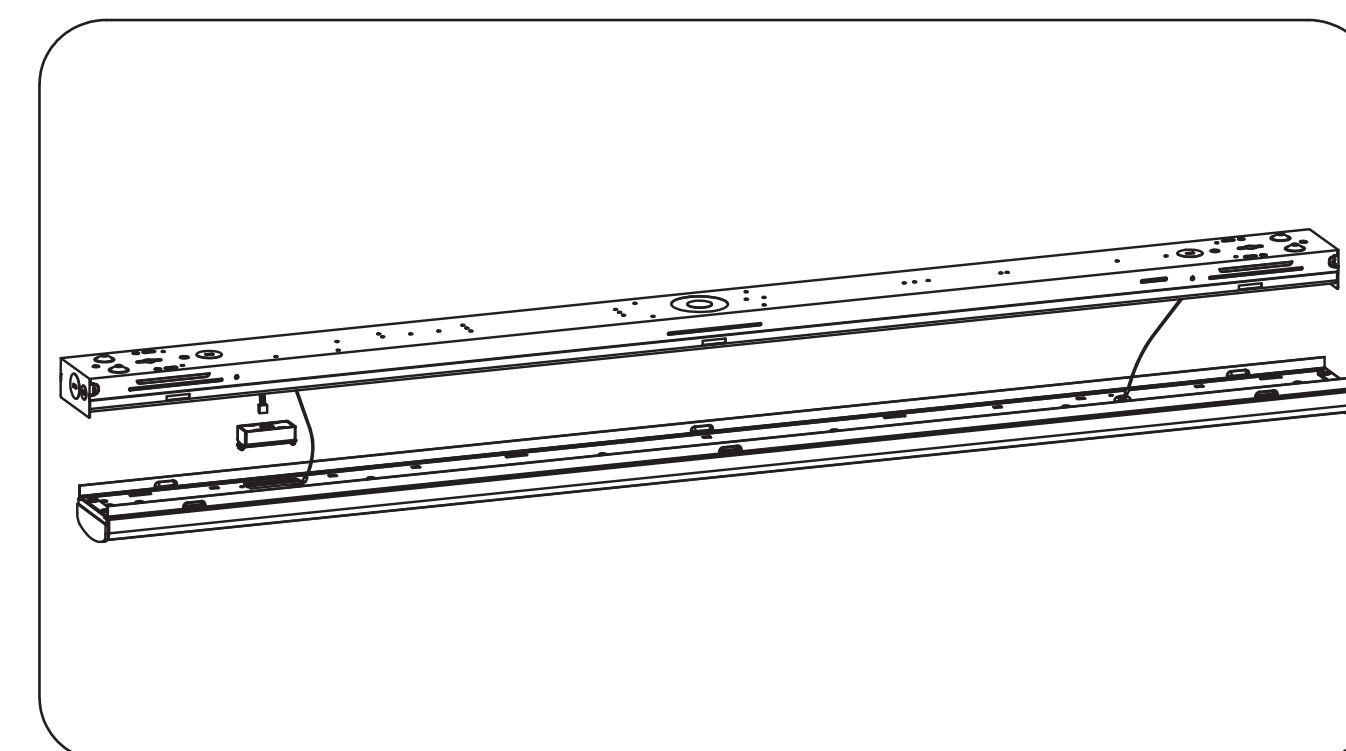

Figure 3
Step 2: Insert the terminals into the approved sensor. (Figure 3)